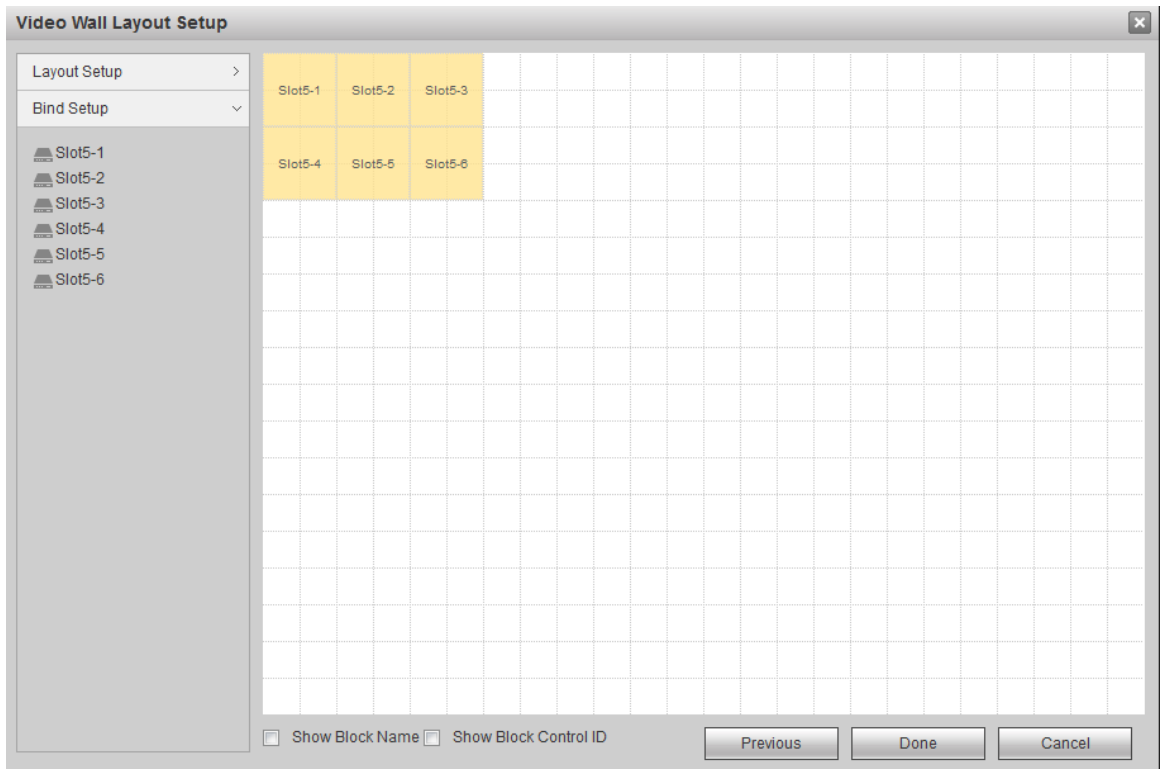

Figure 4-98
Step 4 Click “Bind Setup” tab or “Next”. The system displays slot info, as shown in Figure 4-98.